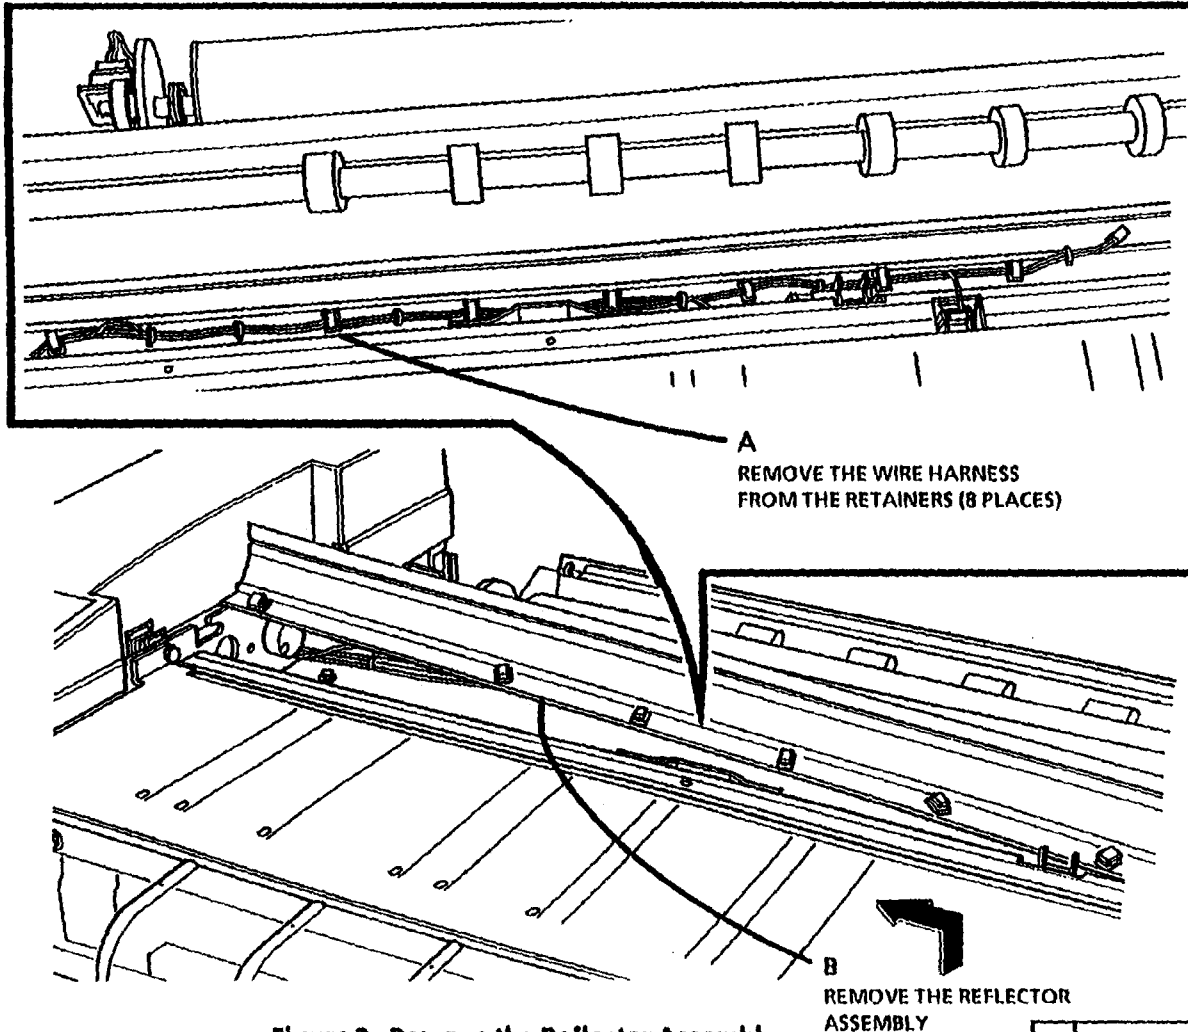

Figure 2. Remove the Reflector Assembly
4. (Figure 2): Remove the Reflector Assembly.